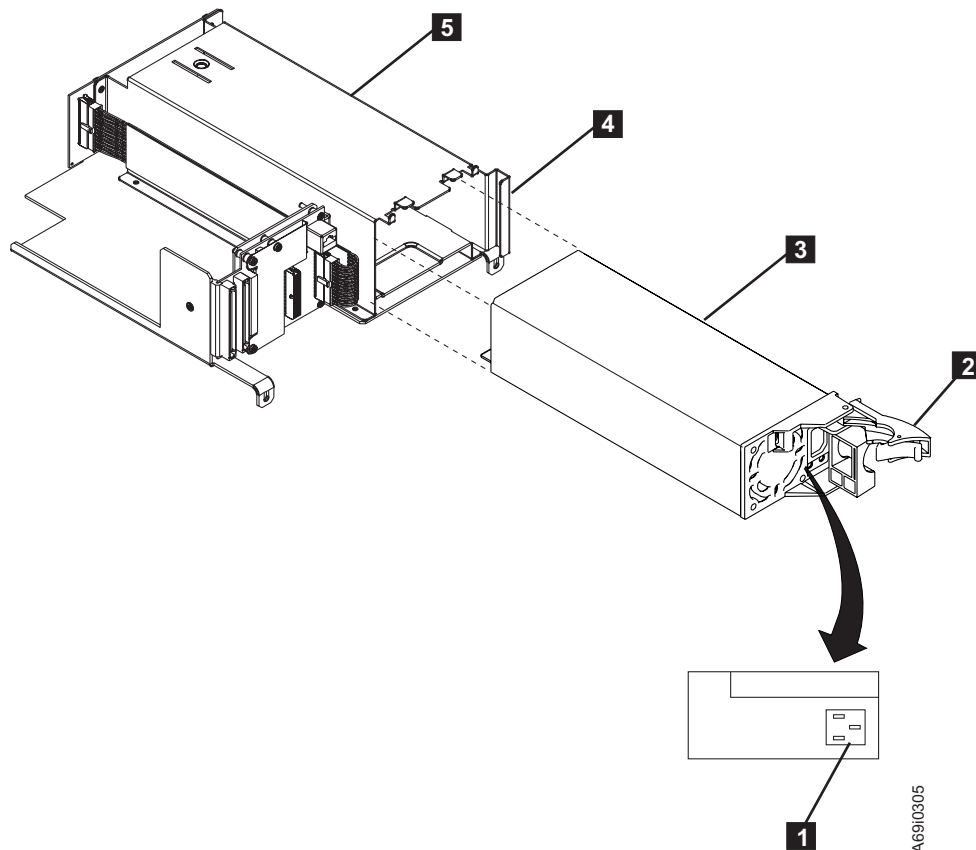

Figure 71. Removing or Replacing a Redundant Power Supply - Models L22, D22, L52, or D52 Hot Swap
2. Disconnect the power cable (**1** in Figure 71) from the rear of the power supply.
6. With the locking arm **2** in the outward position, carefully slide the power supply canister (see **3** in Figure 71) into the fixed tray assembly **5** as far as it will go.